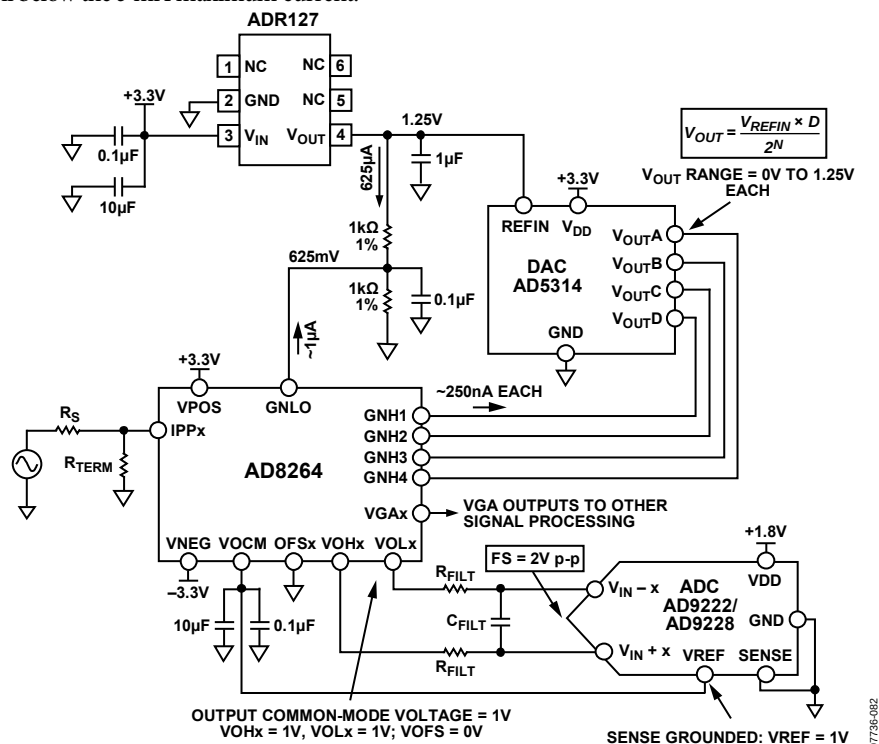
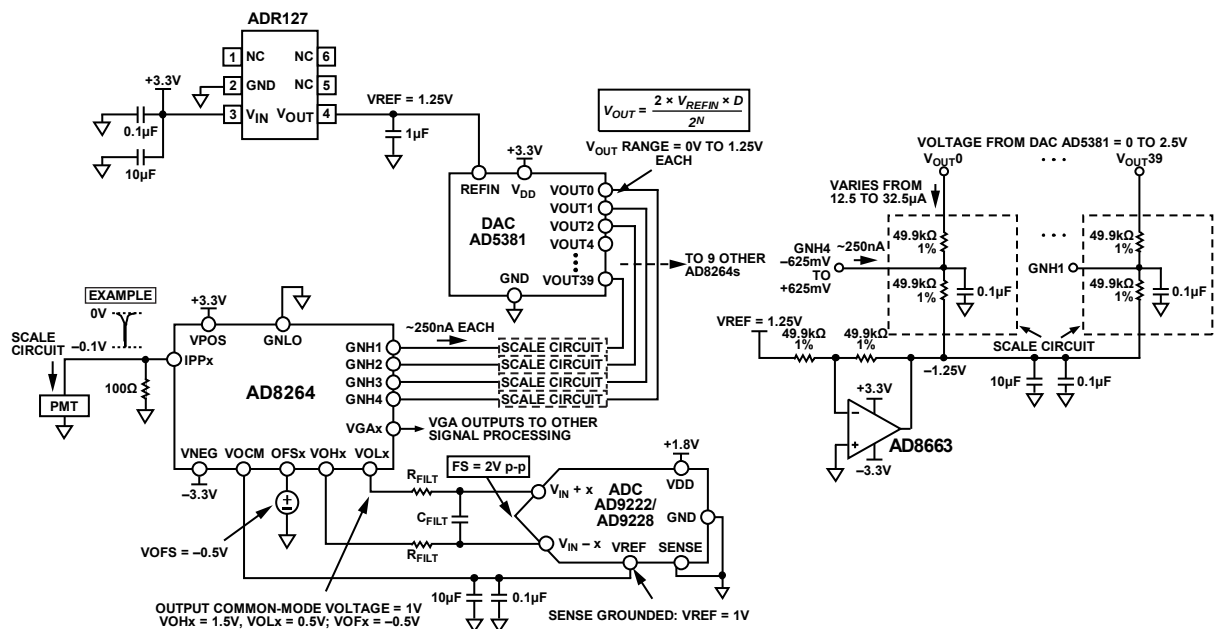

Figure 112. Application Concept of the AD8264 with the AD5314 10-Bit DAC and the AD9222/AD9228 12-Bit ADC
Figure 113. Concept Application of AD8264 with 40-Channel AD5381 12-Bit, 3 V DAC and AD9222/AD9228 12-Bit ADC
The AD8264 is particularly well suited for use in the analog front end of medical PET imaging systems. Figure 112 shows how to use the AD8264 with the AD5314 (a 4-channel, 10-bit DAC) and the AD9222/AD9228 (an octal or quad, 12-bit ADC, respectively). The DAC sets the gain of the AD8264. Note that the full gain span of 24 dB is achieved with this setup because the gain control input range of the AD8264 is very close to 1.25 V. The GNLO pin must offset by $1.25/2 = 625$ mV because the gain control input is bipolar around the voltage applied at GNLO. This is done with two 1 k Ω , 1% resistors. The approximately 1 μ A of bias current flowing from the GNLO pin does not contribute a significant error because the basic gain error of the AD8264 is the limiting factor.
Figure 112 also includes the DAC output equation, which indicates that the output can vary between 0 V and $V_{REF} = 1.25$ V.
The single-ended-to-differential amplifier of the AD8264 amplifies the VGA output signal by 6 dB and can provide the required dc bias of the AD9222/AD9228, as shown in Figure 112. The ADC is connected with the default internal reference because the SENSE pin is grounded. With this connection, the AD9222/AD9228 VREF pin is an output that provides 1 V; this is then connected to the VOCM input of the AD8264, which sets the output common-mode voltage of the VOHx and VOLx pins to 1 V. This voltage is very close to the recommended optimal value of $VDD/2 = 0.9$ V. With this configuration, the ADC inputs are set to a full-scale (FS) of 2 V p-p.
The dc connected concept example in Figure 113 is an application with the 40-channel AD5381, 3 V, 12-bit DAC. The main difference between this example and Figure 112 is that, for the same ADR127 1.25 V reference, the full-scale output of the DAC is from 0 V to $2 \times V_{REFIN} = 2.5$ V. Two options for gain control include the following:
- Use the same circuit as in Figure 112 but use only half the DAC output voltage from 0 V to 1.25 V. This is the simplest solution, requiring the fewest extra components. Note that the overall gain resolution increases by one bit to 11 bits over the 10-bit AD5314.
- Ground GNLO and scale the DAC output so that the GNHx inputs vary from -0.652 V to $+0.625$ V. Figure 113 shows a possible circuit implementation using a divider between the DAC output and a -1.25 V reference.
Figure 113 shows how the AD8264 is connected in a PET application. The PMT generates a negative-going current pulse that results in a voltage pulse at the preamplifier input and a differential output pulse on VOLx and VOHx.
A convenient method of verifying and customizing the signal chains shown in Figure 112 and Figure 113 is by ordering the corresponding evaluation boards available on www.analog.com. The AD8264-EVALZ is a platform through which the user can quickly become familiar with the features and performance capabilities of the AD8264. See the Evaluation Board section for more information.